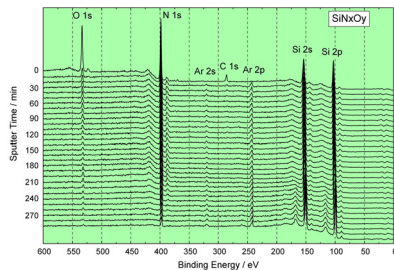
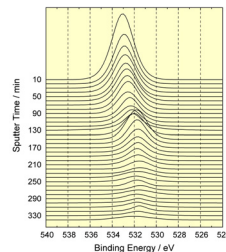

Fig. 1. Plot 3D-Waterfall 0°: surveys SiNxOy
Fig. 4. Plot 3D-Waterfall 0°: O 1s
1. Plot 3D-Waterfall 0°: Plot of spectra (see Fig. 1) or sum curves of the peak fit (see Fig. 4, 10, 16) with a viewing angle of 0°,